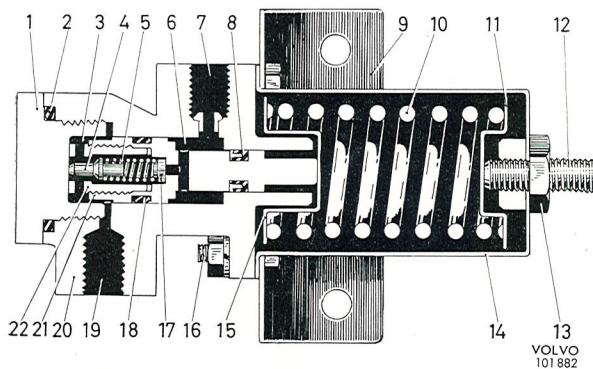
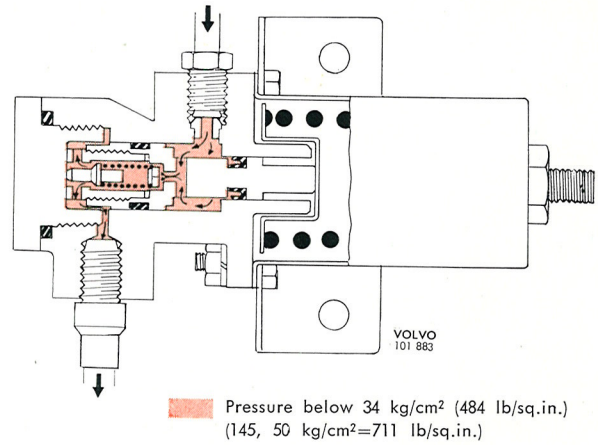

Fig. 5-40. Brake valve, construction
Fig. 5-41. Brake application
A brake valve is connected to each of the rear wheel brake lines, see Fig. 5-6. When the ingoing brake pressure exceeds 34 kg/cm^2 , 484 lb/sq.in. , ($145, 50 \text{ kg/cm}^2=711 \text{ lb/sq.in.}$) a reduction takes place in the valve. The more powerful the pedal pressure, the greater the reduction and thereby the larger the difference between the hydraulic pressure in the front wheel and rear wheel cylinders. This results in a suitable distribution of braking force between both pairs of wheels. The construction of the brake valve is shown in Fig. 5-40 and its function is the following.
When the footbrakes are applied, the pressure from the master cylinder is transmitted via the connection (7, Fig. 5-40). The pressure then proceeds through the cylinder (6), the counterbore, past the valves (17) and (4) to cylinder (3) and then on through connection (19) to the rear wheel cylinders, see Fig. 5-41. The hydraulic pressure per unit surface is equal on the different parts of the piston (21), but since its pressure surface is larger in cylinder (3) than in cylinder (6), the force developed will move the piston to the right of the figure. However, this is counteracted by the pressure from the spring (10). When the hydraulic pressure approaches 34 kg/cm^2 , 484 lb/sq.in. ($145, 50 \text{ kg/cm}^2=711 \text{ lb/sq.in.}$) the spring pressure is overcome and the piston (21) is moved to the right. By means of pressure from the smaller spring (5), the valve (4) shuts off the connection between the two cylinders and forms two separate system, one for the front wheels and one for the rear wheel.
When the brake pedal is released, the pressure in the cylinder (6) falls. The piston (21) is moved to the right by the spring (10). When the pressure on the right-hand side of the valve (4) falls so much that the hydraulic pressure on the left-hand side enables the valves to be actuated, the connection between both the cylinders is opened again. As the pressure falls, the spring (10) presses the left piston back to its original position where the valve is held in the open position by mechanical means, see Fig. 5-41. The equalizing valve (17) is fitted with control channels which ensure an even flow of pressure through the valve.